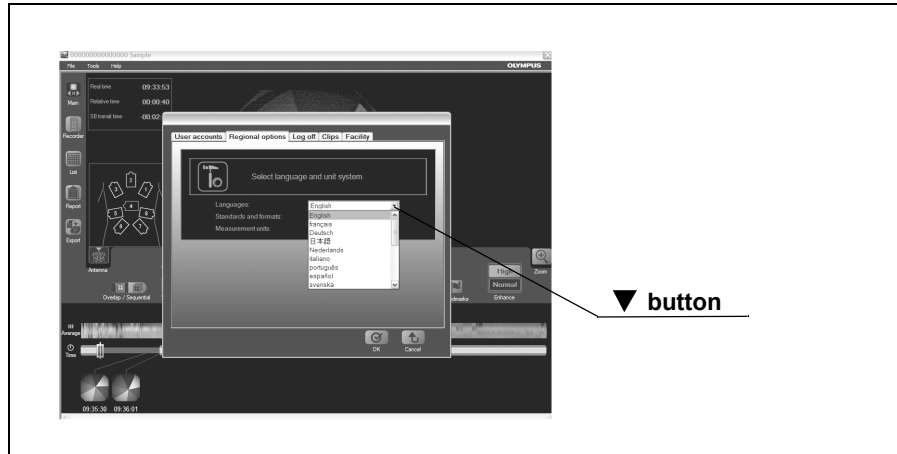

Figure 4.25
3. Click the “▼” to the right of “Language” to select the language (see Figure 4.25). The available languages are listed in Table 4.4.